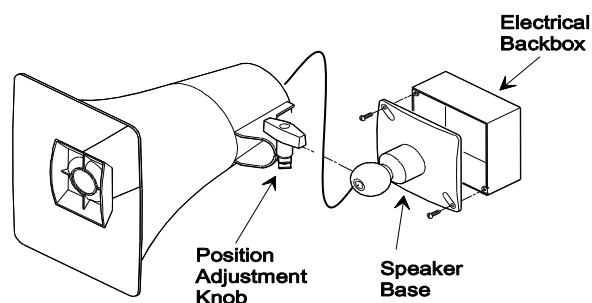

Figure 2. Mounting to an electrical Backbox
- The base has holes punched for a double-gang square box, but by punching out additional knockout holes, the base can be mounted to a single-gang or octagon box. See Figure 2.